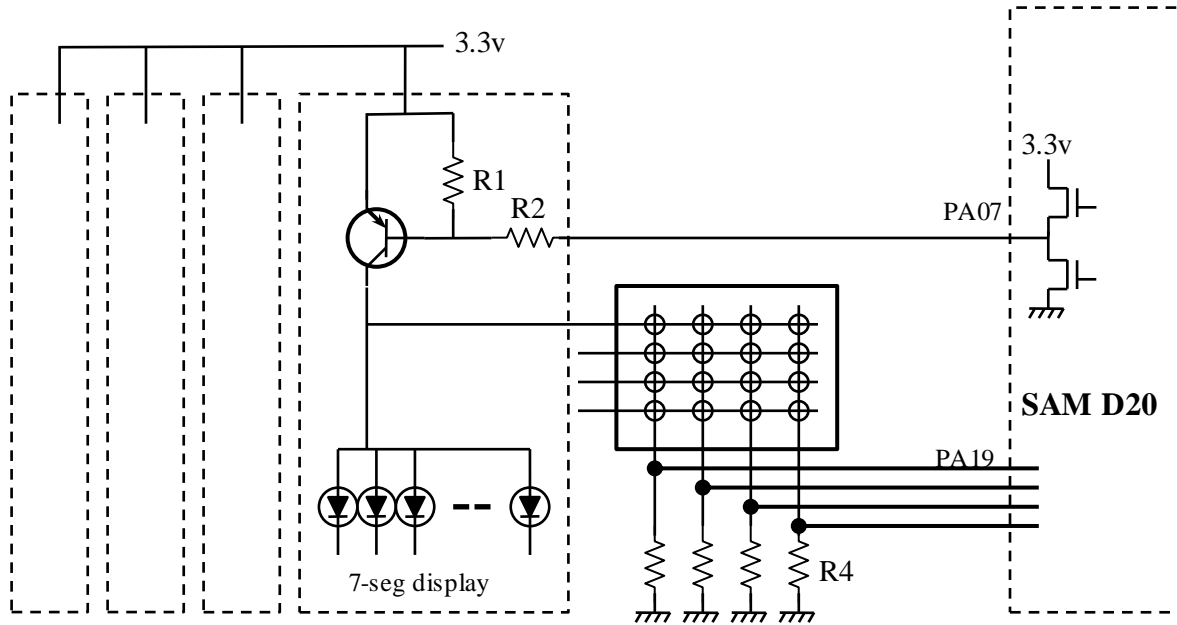

Figure 1.3 Keypad circuit (only one row is shown).
- The keypad has 4 row-pins and 4 column-pins (see Figure 1.3). When a button is pressed, a specific row and column are connected together. Think about a button as a light switch. When you turn a switch on, two wires are connected. The row-pins are connected to the same PNP transistors for the 7-segment display. When one of the PNP transistors is turned on, the corresponding row of the keypad is energized (and also the corresponding display digit). At this point, if one of the 4 keys on the energized row is pressed, a high is output to the corresponding column-pin. The resistor R4 in Figure 1.3 is a pull-down resistor and can be replaced by the 'pull-down' option (PULLEN) of the input pin. R4 should be selected so that it does not draw significant amount of current when it is energized.